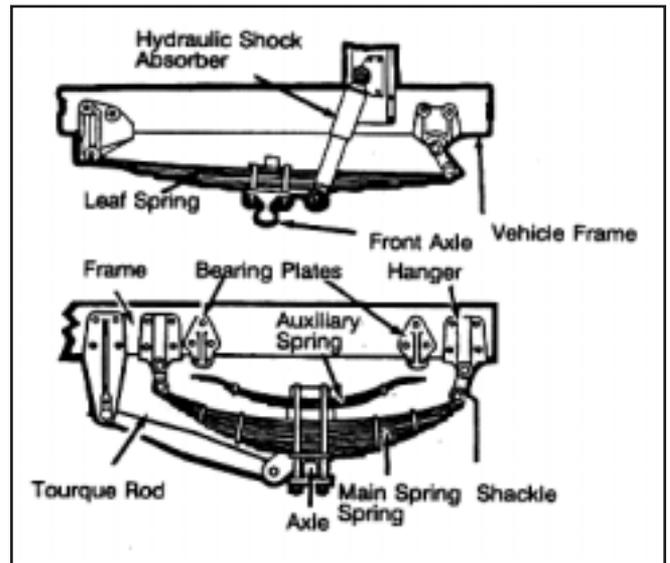

Figure 2-2
- Spring hangers (Figure 2-2) that allow movement of axle from proper position.
- Torque rod or arm, u-bolts, spring hangers, or other axle positioning parts that are cracked, damaged, or missing (Figure 2-2 and 2-4).